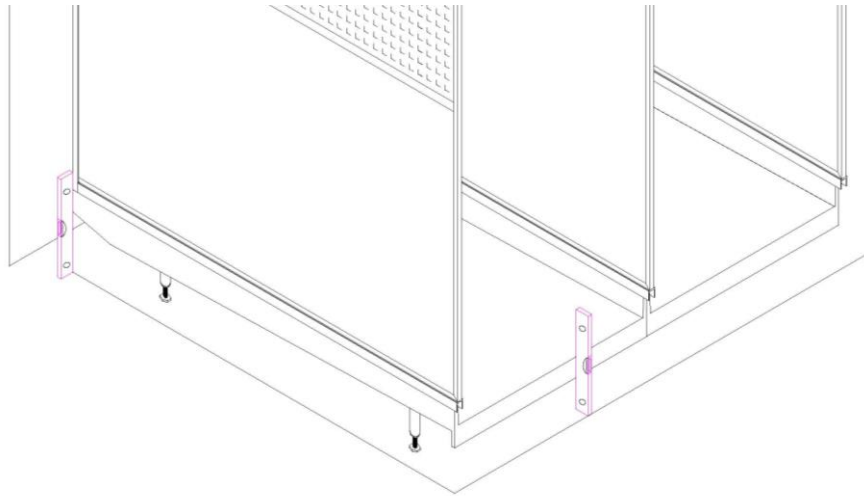

Fig. 39
1. Use a level and chalk line to mark the floor location of Side Trim Panel aluminum angle supports. See Fig. 39.